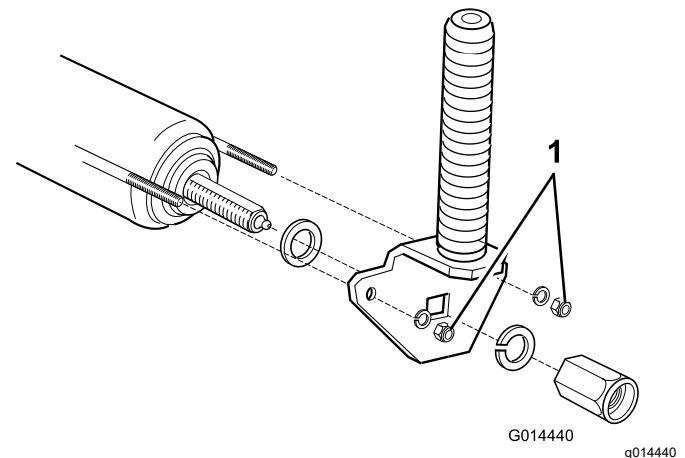

Figure 80
2. Tighten the nuts 4 full turns to correctly tension the wire (Figure 80).